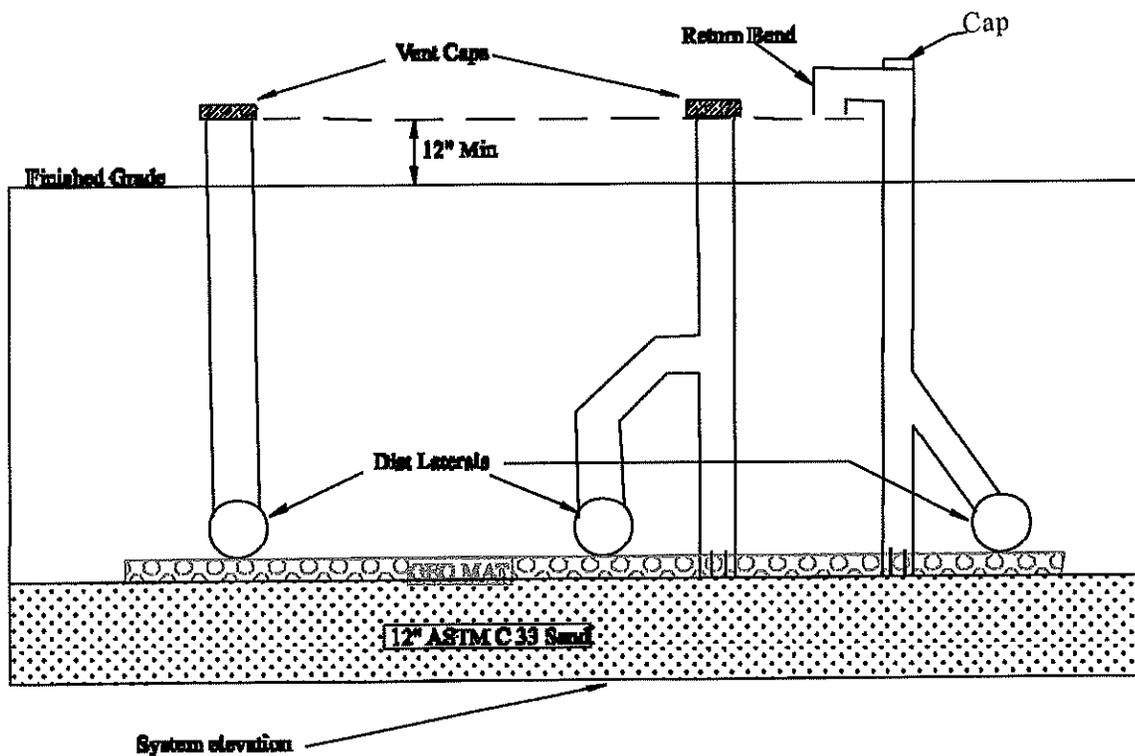

Figure 6
An observation pipe may serve as a combination observation/vent pipe providing it terminates in the same manner as required for vent pipes. (See figure 6)
9. Install vent pipe if 1 is to be used as prescribed in Figure 6